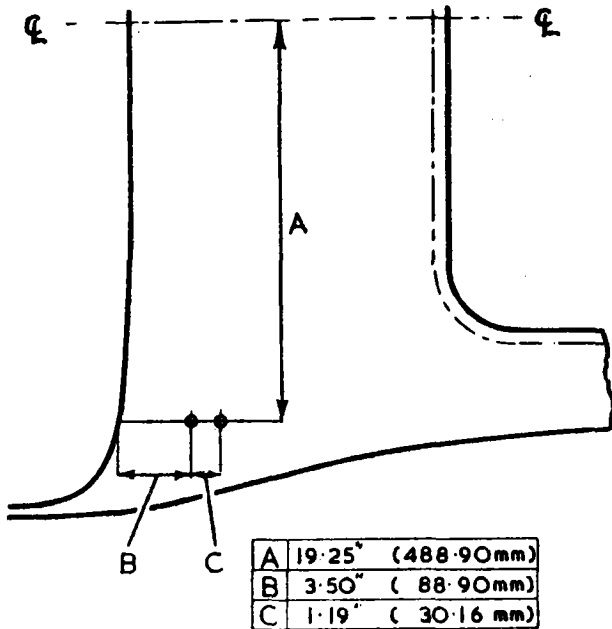

Fig. S.9
- (1) Mark off and drill two $\frac{1}{2}$ in. (7.73 mm.) holes in the tonneau panel in the position shown in Fig. S.9.
- (2) Place the two spring washers on the two pan-head screws, pass the screws through the top end bracket of the long belt, and position the bracket on top of the tonneau panel.